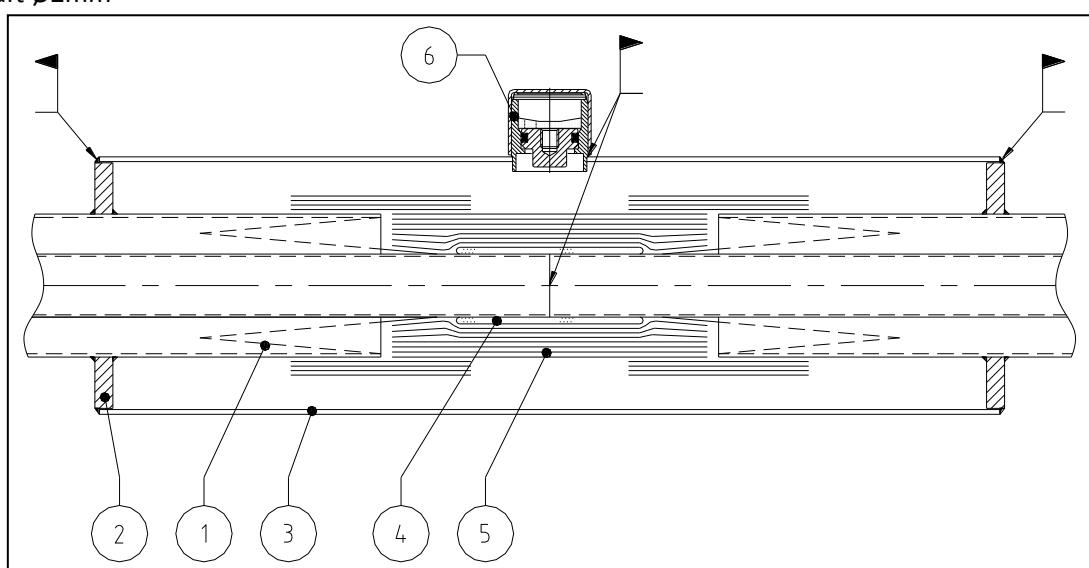

figure 2; *Straight welded coupling*
2x Sections with heat bridge (Fig2, pos.1) and weld ring (Fig2, pos.2)
1x Vacuum jacket (Fig2, pos.3)
1x Pump valve complete (Fig2, pos.6)
The molecular sieves are packaged in a fibre bag (Fig.2, pos.4). In turn this fibre bag is packaged again in a plastic bag. This being to prevent adsorption of humidity during storage. Remove the plastic bag and position the sieves including the fibre bag on the inner piping underneath the pump valve. Fasten the molecular sieves including the fibre bag to the process pipe with Silver tape (for example: 3M type 850). Wrap super insulation (Fig2, pos.5) loosely from the opening in the heat bridge at one end, around the visible part of the inner piping until the opening in the heat bridge at the other end. The glass paper of the super insulation may come in contact with the heat bridges, but ensure that the aluminium foil does not come into contact with the heat bridges. Fasten the super insulation with stainless steel wire or Silver tape. Now wrap 10 layers super insulation over the gap between the heat bridges and the already applied super insulation. Make sure the super insulation does not come in contact with the vacuum jacket of the weld connection and fasten the super insulation with stainless steel wire or tape.
Now the jacket can be slid over the inner piping, until the jacket rests on both welding rings. Ensure that the jacket is rotated in such a way, that the opening for fitting the pump valve is at the top, as shown in figure 2. Check, with respect to obstacles in the surroundings of the jacket, whether it is possible in this position to place a pump-out tool on the pump valve. When this is not possible, the jacket must be rotated. Ensure that the opening for the pump valve remains within the top 180 degrees of the jacket.
Each section is vacumised ex-works. Welds on the outside jacket of a section will lead to breaking the vacuum. As a result of the vacuum, the meltage will be drawn to the inside, and a hole in the outside jacket is created. Only weld on the welding rings at the location where the jacket rests on the welding rings. This is clearly shown in figure 2.